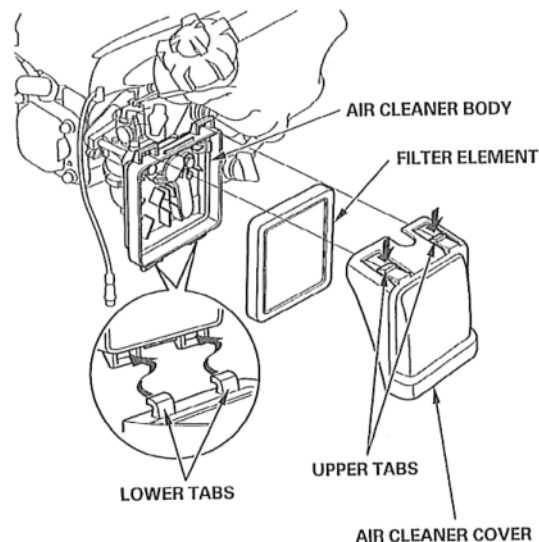

Figure 18
3. Press the latch tabs on the top of the filter cover and remove the cover. (Fig. 18)